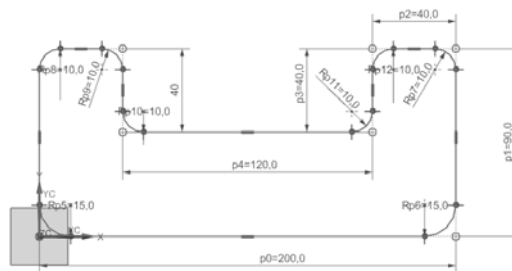

Figure 2-58 Sketch after creating fillets
7. Right-click, and then choose the **OK** option from the shortcut menu to exit the **Fillet** tool. The fillets are created, refer to Figure 2-58.